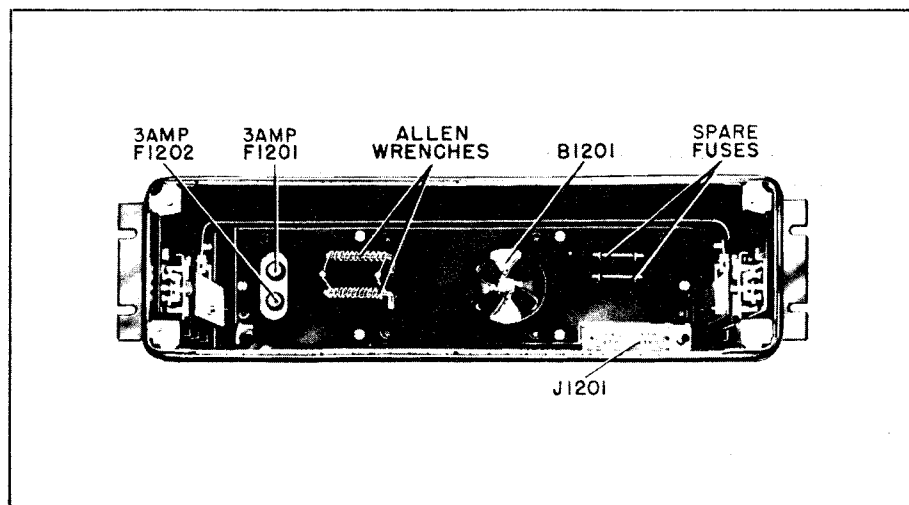

Figure 5-1. Frequency Shift Converter CV-60/URR, Fuse Locations
(1) SYMPTOMS OF FUSE FAILURE.—Pilot light not lighted. Tubes will be cold when chassis is pulled from case.
(2) FUSE LOCATIONS.—The fuses are located one above the other at the left rear of the cabinet in the Cable Filter Compartment. Spare fuses will be found to the right of the fan. See Figures 5-1 and 5-2.
(3) REPLACEMENT.